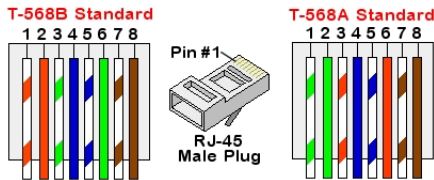

Figure 39: Standard cable wiring
- c. Insert the eight wires into an RJ45 connector, as described in Figure 39.
7. For the switch/router side, use a pre-crimped cable or use a crimper to prepare an RJ45 communication connector: Insert the eight wires into the RJ45 connector in the same order as above (Figure 39).